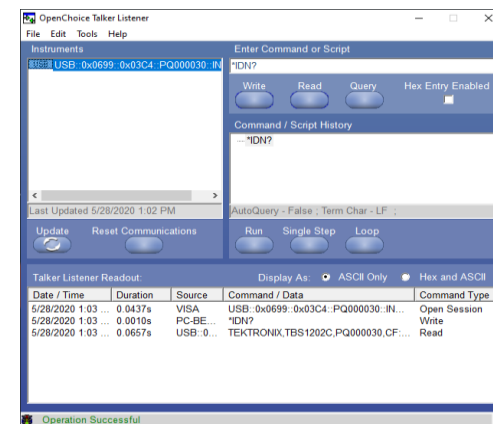

Figure 23. Sending \*IDN? In the command prompt
9. Try with the \*IDN? Command. If you query the \*IDN? Command, it will return the scope's serial number and firmware version. (Figure 23)